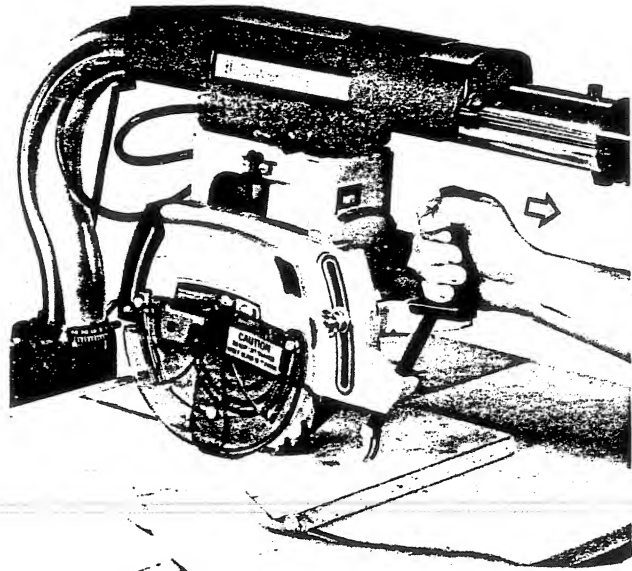

Figure S2
Long Cross Cuts (Figure S2). With the fence in its normal position the length of the basic cross cut is about 10½". To cross cut wide lumber, first make this 10½" cut and turn the motor "OFF". Move the fence all the way back as shown in Figure S2. Slide the wood back against the fence keeping the blade centered in the cut you have just made. Turn the motor "ON" and extend the 10½" cut as needed or to the outward limit of saw travel in the arm. By turning the wood 180°, and repeating the above, cuts up to about 36" long can be made.
4. If a longer miter cut is needed, move the fence back behind the spacer board. (Figure S2). Place the piece being cut against the fence with the blade centered in the cut previously made with the fence in normal position. Turn motor "ON" and pull saw forward the distance needed to complete the cut. Return saw to rear of arm and turn motor "OFF".